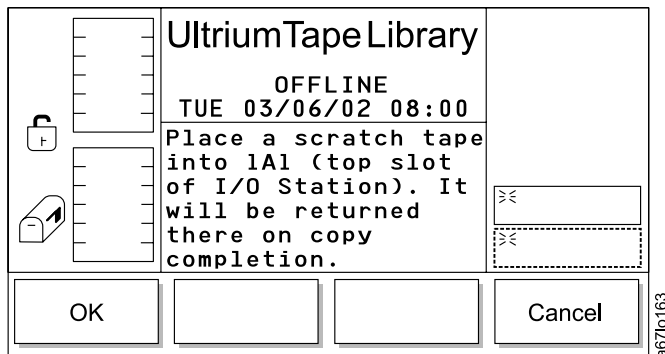

Figure 106. Copy Dump Dialog
- If **Copy Dump** is selected, the Copy Dump Dialog displays (see Figure 106 on page 104).